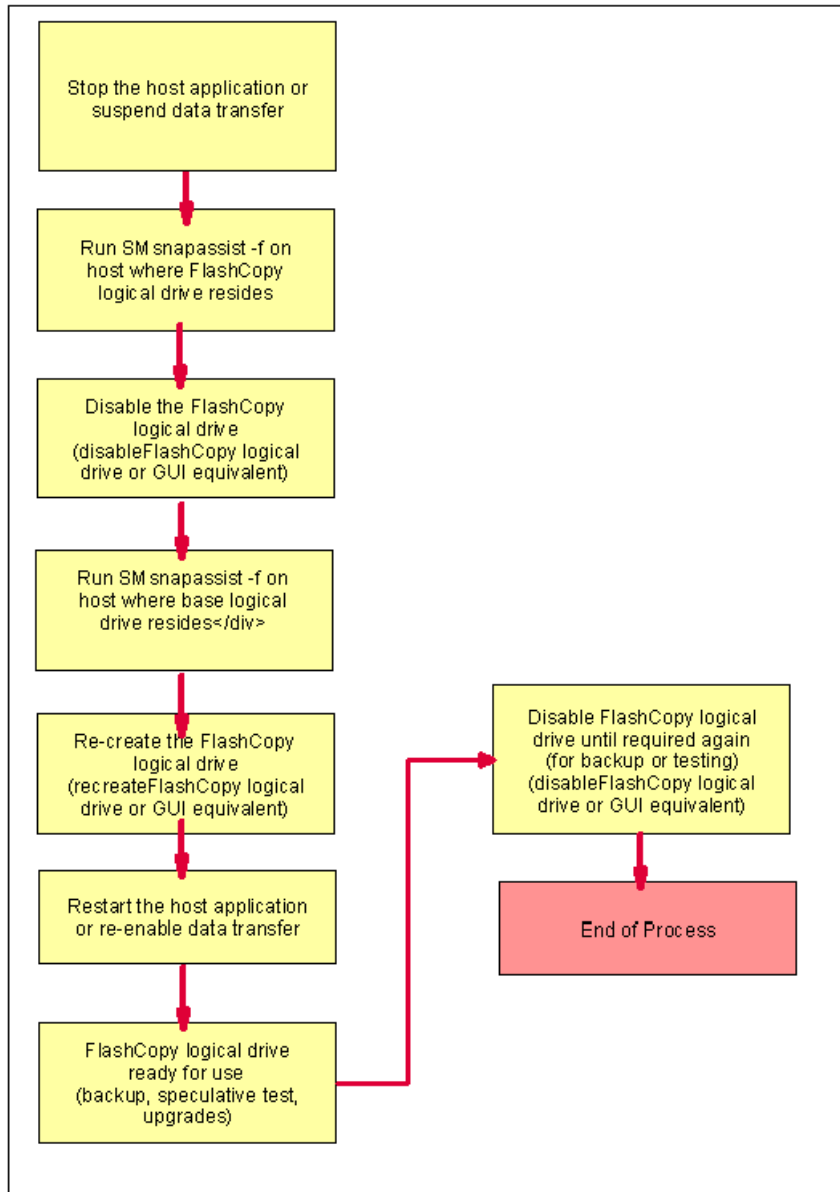

Figure A-2 Re-using disabled FlashCopy logical drives: Windows basic/regular disks
- ▶ Reuse a disabled FlashCopy logical drive on Windows 2000 or Windows NT. See Figure A-2.